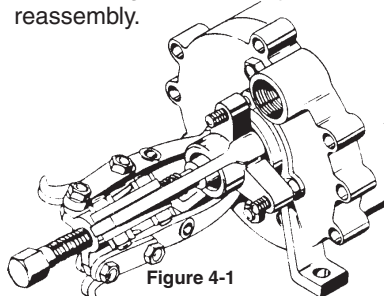

Figure 4-1
3. The bearing arm (#3B) may now be removed. A gear puller may be necessary.(refer to figure 4-1) The outboard ball bearing (#24B) will now be exposed . Locate the tab on the bearing lock washer (#39B) which is holding the bearing lock nut (#38B) in place. Bend this tab straight by prying underneath it with a screwdriver or chisel. Once the tab has been lifted somewhat, use a pin punch or drift to tap the tab out of the slot in the bearing lock nut (#38B). Using a spanner wrench or punch, loosen and remove the bearing lock nut (#38B). Slide the lock washer from the shaft. The outboard ball bearing (#24B) should now be removed. A gear puller will have to be used for this operation. If the bearing can be removed too easily, a worn bearing surface may be indicated. Replace the shaft and bearing as necessary before reassembly.